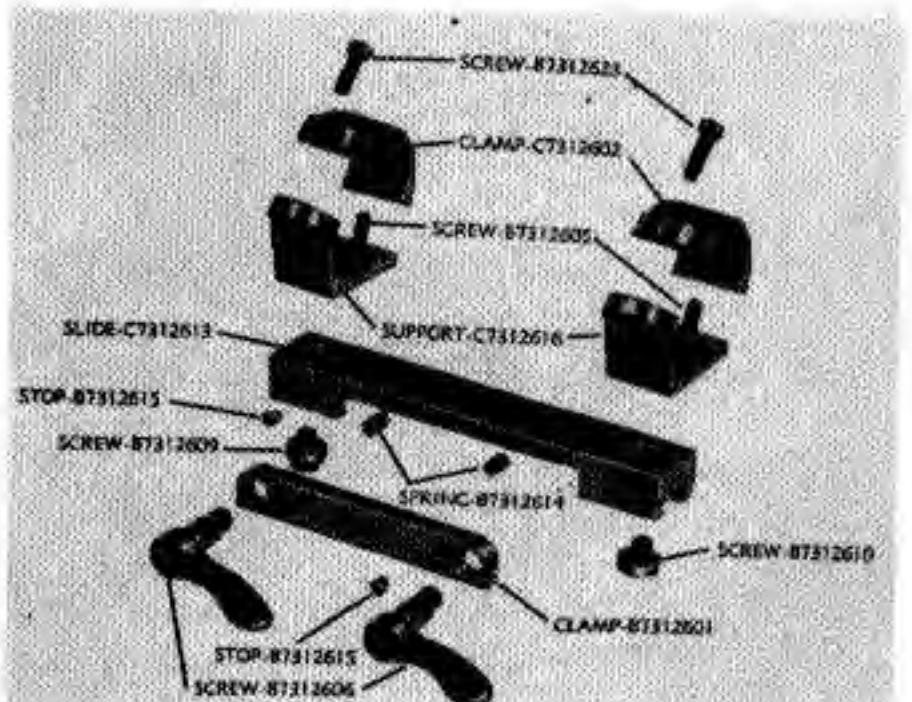

Fig. 129. Scope mount assembly, M1C.
54. Telescope mount, M1C only: (Fig. 129, 130) inspect the scope mount bracket for retention on the receiver and for burs on male dovetail slides. Inspect slide for function in scope mount bracket, and locking action of slide clamp with locking screws. Check supports for looseness in slide. Inspect screws and screw holes for worn or stripped threads and all recesses for foreign matter.